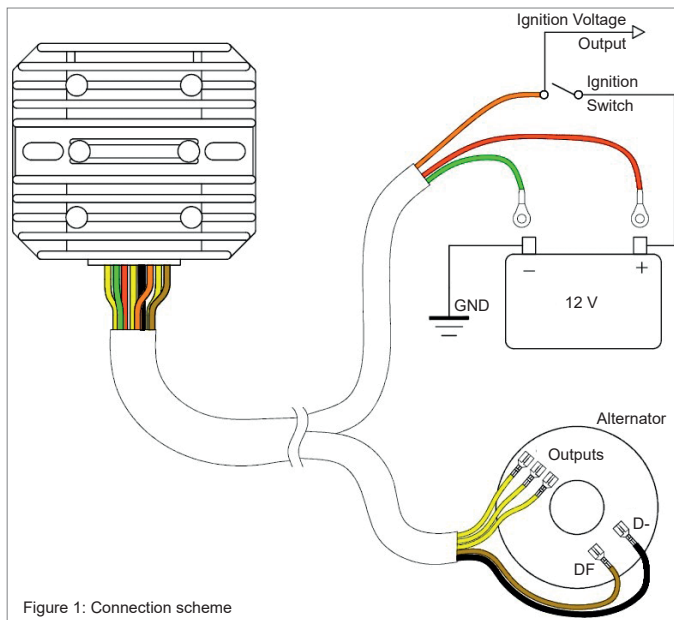

Figure 1: Connection scheme
- Proceed with electrical connections. Identify each wire in your bike's harness and connect to corresponding regulator wire as per scheme in figure 1. Make sure you leave the battery connection for the end.